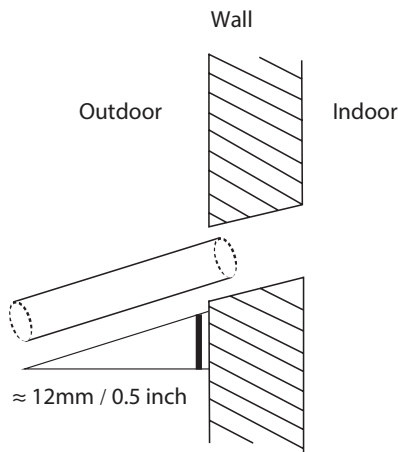

Fig. 6.5
- Using a core drill, drill a hole in the wall. Make sure that the hole is drilled at a slight downward angle, so that the outdoor end of the hole is lower than the indoor end by about 12mm (0.5"). This will ensure proper water drainage (See Fig. 6.5). Place the protective wall cuff in the hole. this protects the edges of the hole and will help seal it when you finish the installation process.